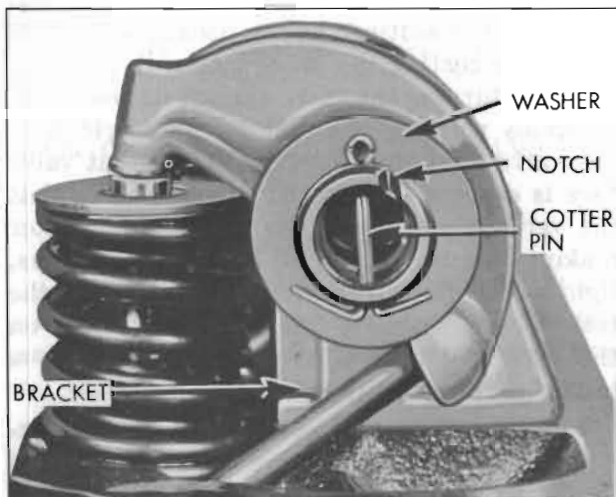

Figure 2-20—Rocker Arm Shaft End View
5. Install bolts with plain washers through brackets and shaft so that the notch on one end of shaft is upward in line with bolt heads. This places the oil holes on lower side of shaft in proper relationship to rocker arms. See figure 2-20.
(4) Install locking plates with exhaust manifold bolts, tighten bolts only to 10-15 ft. lbs. torque, then bend one tab of plate against a flat on each bolt head.
(5) When rocker arm and shaft assembly is installed, make certain that the notch in one end of shaft is upward in line with bracket bolt heads. See figure 2-20.
(6) Install intake manifold gaskets so pointed end of each gasket is "IN" toward center of engine.
(7) After installation is completed and engine has been warmed up to operating temperature, recheck cylinder head bolts for 65-75 ft. lbs. torque.